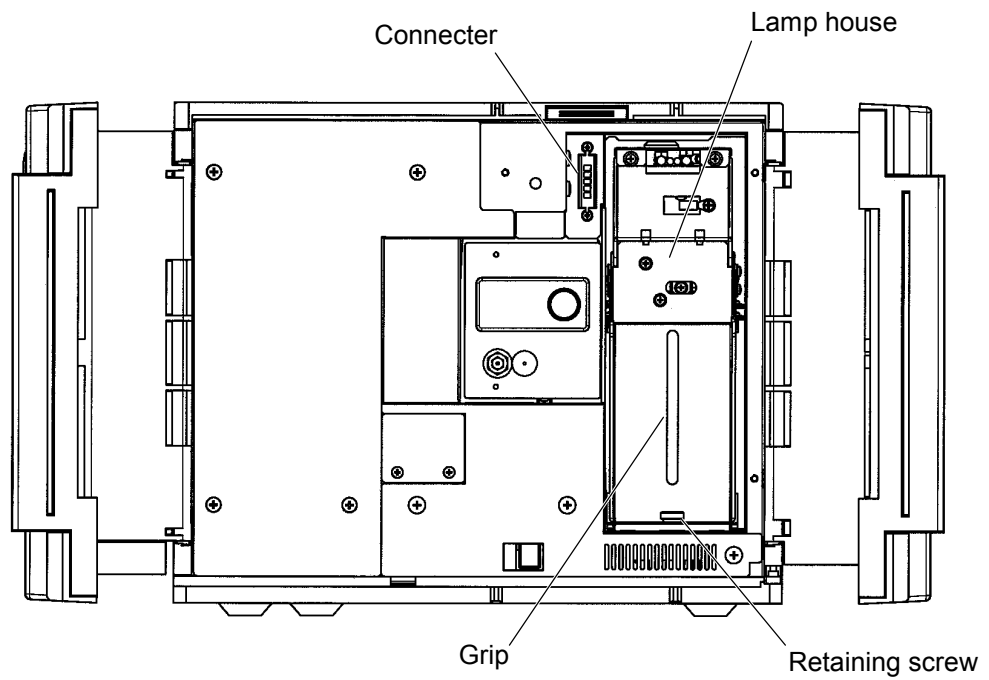

Fig. 5-2 Removal of Connector and Retaining Screw
- (j) After mounting the Xe lamp in the lamp house, assemble it into the main body (Fig. 5-2). Raise the lamp house and insert it into the main body, then lower it and press it downward into place. The lamp house will not move if installed correctly. Finally, secure the lamp house with retaining screws and connect its connector with the main body.
- (ii) In the present status, pull out the flow cell unit (see Fig. 5-2). "****" will be indicated at FL on the 1st monitor screen.